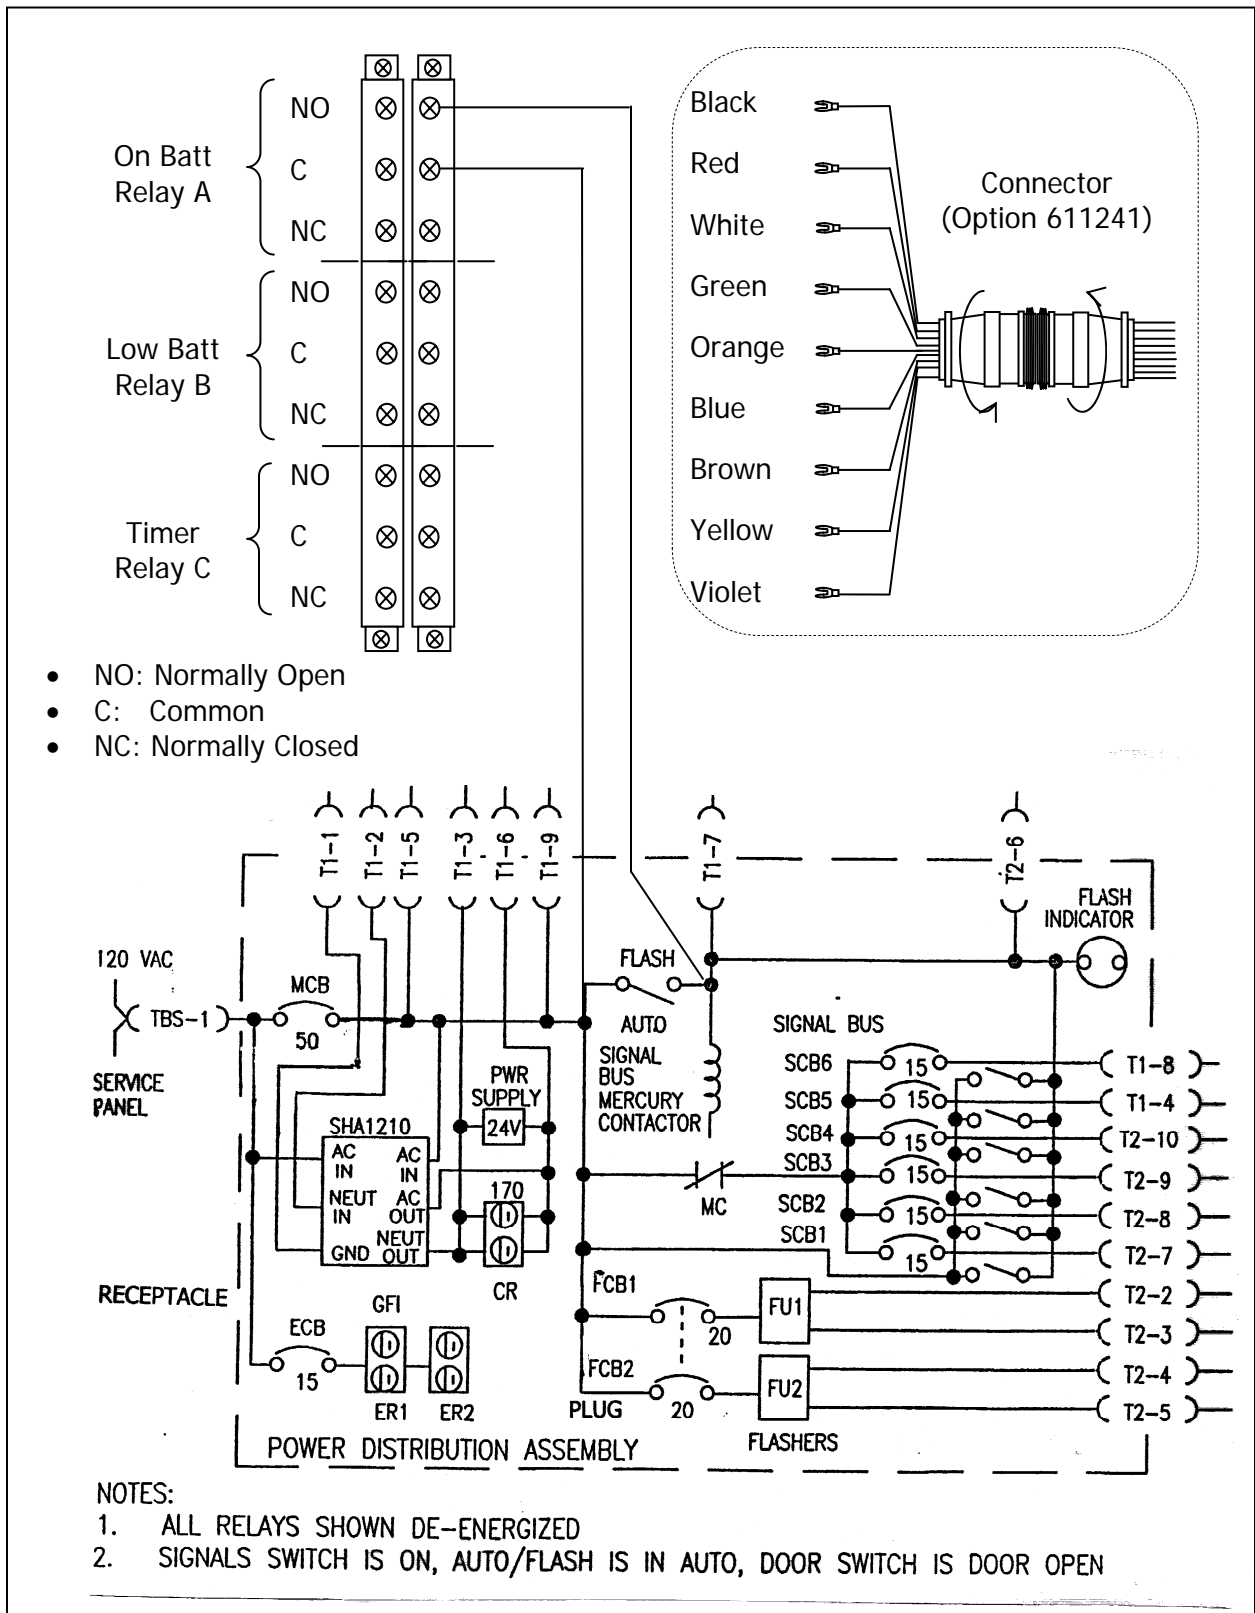

FIGURE 13: Red Flash wiring configuration
*This relay connection provides a means for the controller to indicate that the Utility Power is either off, too high or too low at this intersection. This relay may also be used as a red flash operation switch; however, using it in this manner will eliminate full run time operation. Red flash operation is useful when the intersection has no LED lamps causing a high full operation current consumption of more than 6.5 amps. Refer to Section 7 and Figure 13 Page 20 for wiring red flash operation.*
*Low Batt-Relay B may also be used as another Alarm function via Controller input or via pager module to notify personnel that the intersection will need attention because of a low battery voltage condition. It is possible to use Relay B in parallel with Relay C to provide flash operation if the BBS has been in Inverter mode for 2 hours or the batteries reach the capacity set in Section 5.1, whichever comes first. See Figure 13 Page 20 for red flash wiring connection.*
*Timer-Relay C may also be used as another Alarm function via Controller input or via pager module to notify personnel that the intersection will need attention if the BBS has been in Inverter mode for 2 hours or more. See figure 13 on page 20 for red flash wiring connection.*
The "Relay B – Low Batt." dry contact output can be used as a signal to activate a flasher/beacon or switch the intersection traffic light controller to Red Flash mode when the amount of battery capacity left is low, but not depleted. Since Red Flash mode consumes significantly less power than full operation does in intersections with both incandescent and LED lamps, switching the intersection to Red Flash will allow the intersection to continue to operate during long grid power outages. In typical applications 40% is the chosen point to trigger anything connected to the "Relay B – Low Batt." dry contacts. Red Flash mode wiring is shown on Figure 13.